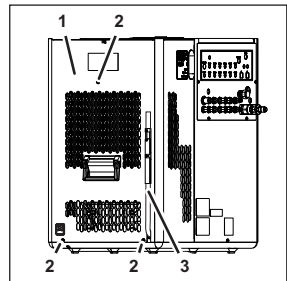

Figure 32
1. Pull the tube (Figure 32/3) of the water level gauge out of the mount.
2. Disconnect the earth cable from the sheet casing (Figure 32/1).
3. Remove the fastening bolts (Figure 32/2) from the sheet casing (Figure 32/1).
4. Lift off the sheet casing (Figure 32/1).
5. Position the new sheet casing (Figure 32/1) on the unit.
6. Attach the sheet casing (Figure 32/1) using the fastening bolts (Figure 32/2).
7. Connect the earth cable to the sheet casing (Figure 32/1).
8. Pull the tube (Figure 32/3) of the water level gauge up through the mount.